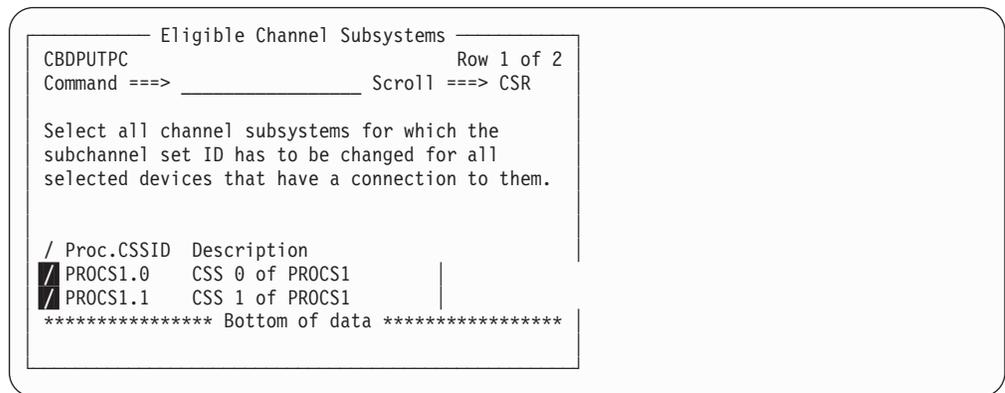

Figure 17. Eligible Channel Subsystems
3. Press Enter to display panel *Eligible Channel Subsystems* (Figure 17). Select all of the channel subsystems for which you want to change the subchannel set ID.